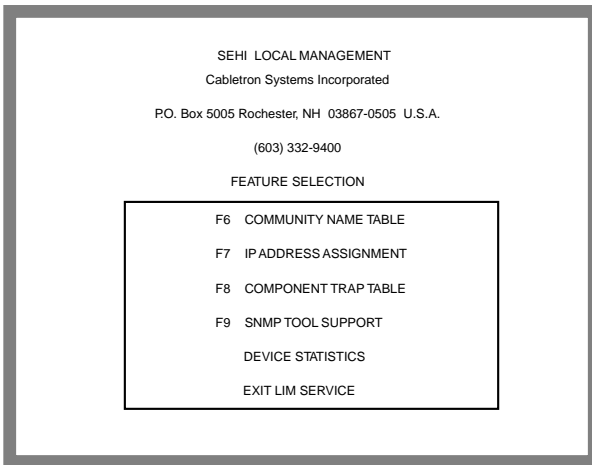

Figure 6-3. Feature Selection Screen
- If your password is valid, the associated access privilege appears briefly, then the SEHI Local Management Feature Selection screen shown in Figure 6-3 appears.